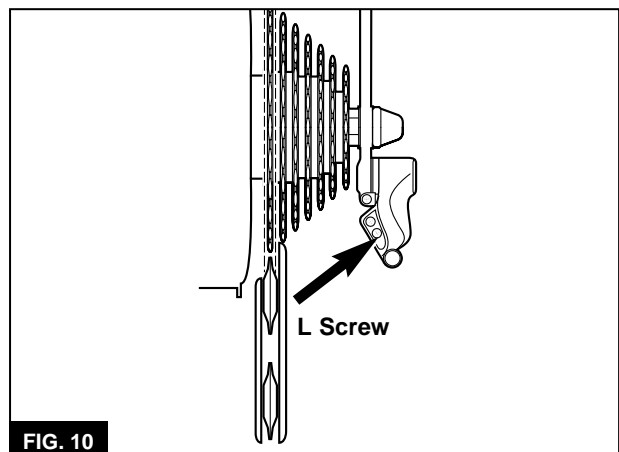

FIG. 10
- e. The guide pulley should align with the innermost cog as shown in **Figure 10**.
- b. Stand behind the E-Bike™, and check the position of the derailleur. The guide pulley should align with the innermost cog as shown in **Figure 10**.